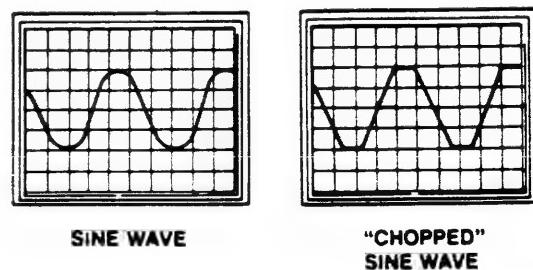

Figure 3-5C
- Turn the M-654 Film Speed Control clockwise to run film at medium speed to obtain a sine wave or "chopped" sine wave similar to one of the displays shown in Figure 3-5C.